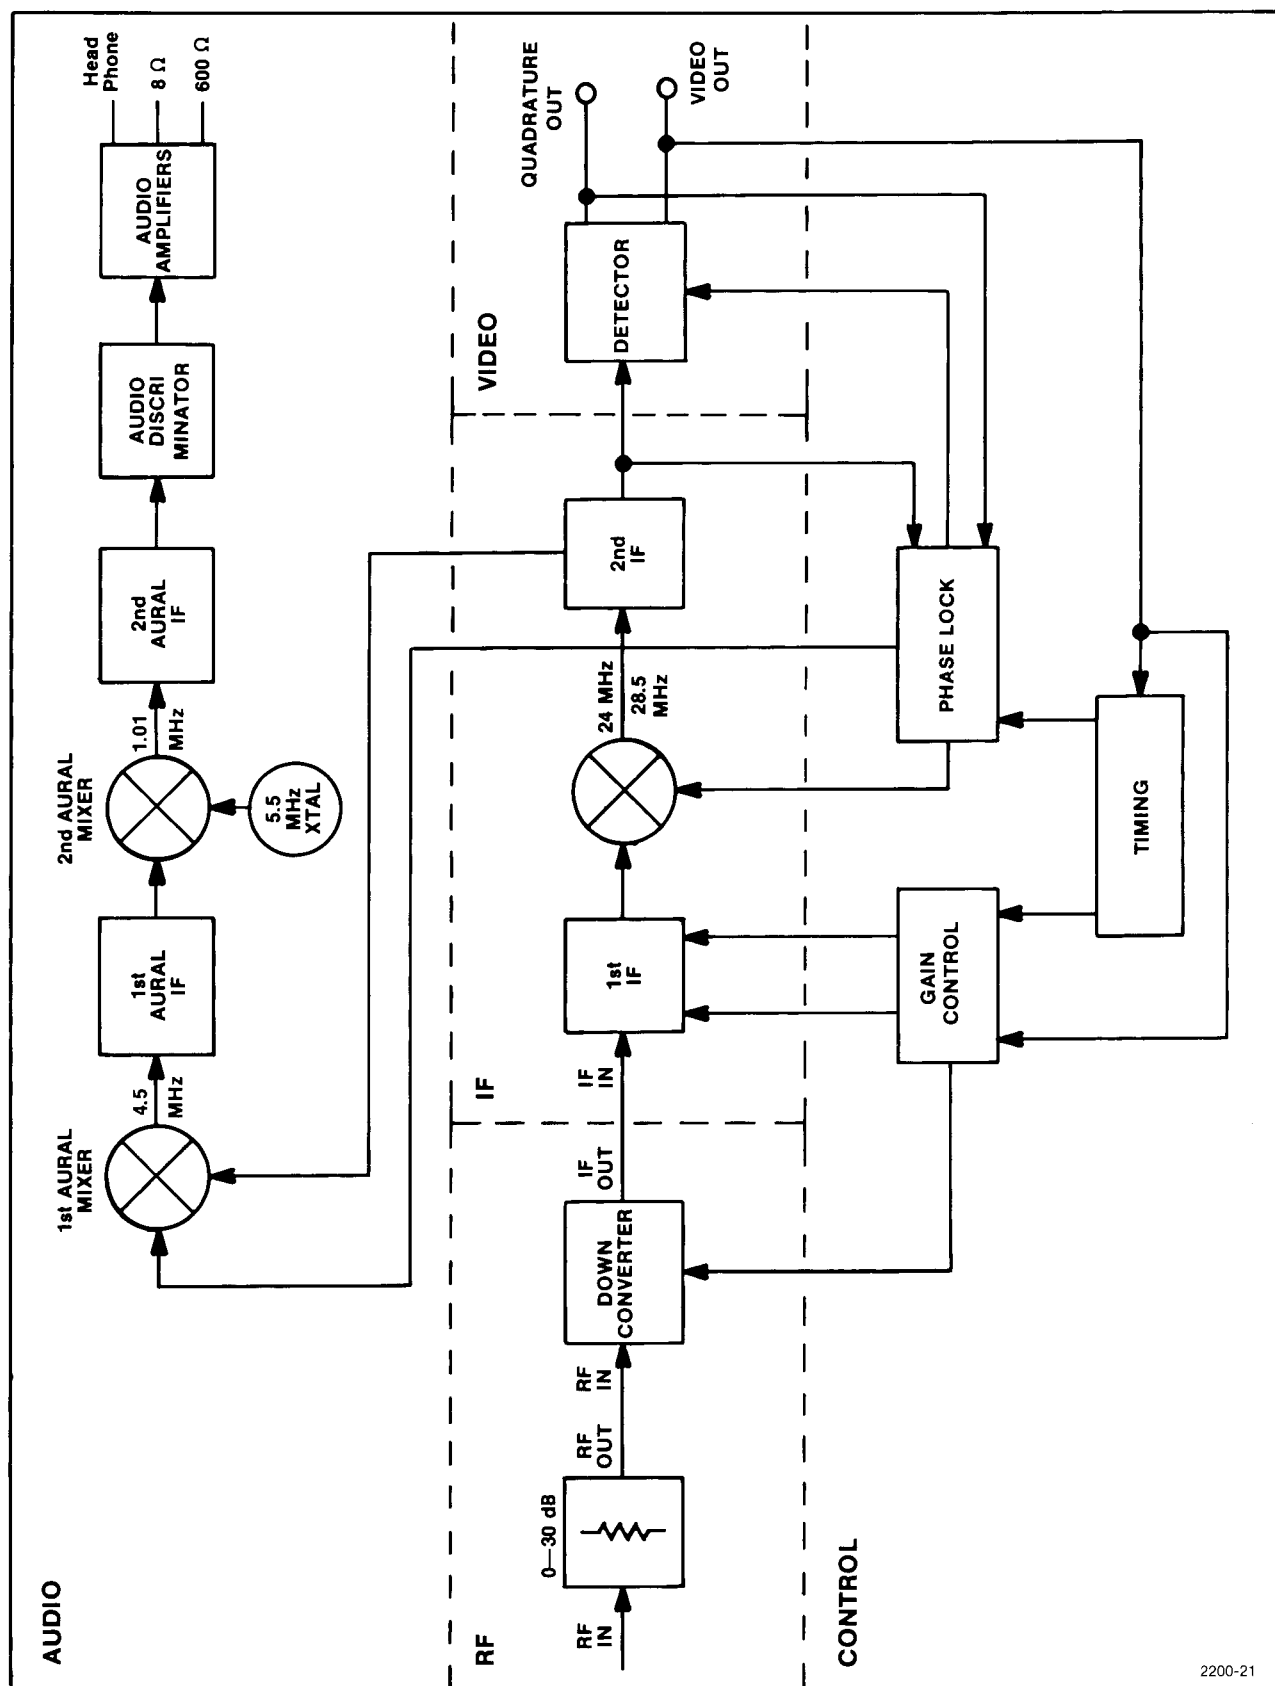

Fig. 3-1. 1450-1 Simplified Block Diagram.
The 1450-1 is a television demodulator that converts the picture and sound carriers at an intermediate frequency (IF) to baseband video and audio signals. The demodulator is basically a multiple conversion, superheterodyne television receiver. Figure 3-1 shows a simplified block diagram.